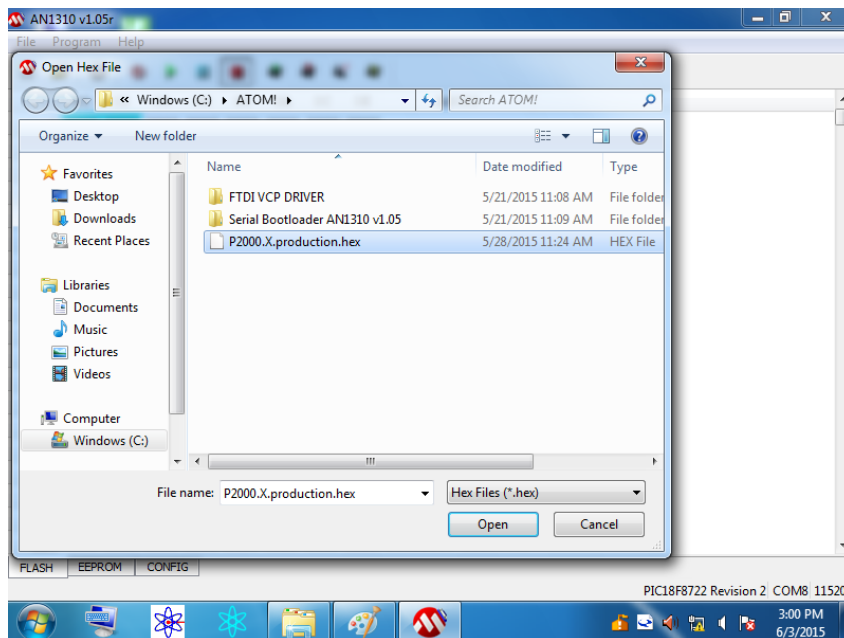

Figure 3.18
8. Select the **P2000.SGA.X.production.hex** file located in **C:\ATOM!** and click **Open** (Figure 3.18). This new software file that was previously copied in folder (Refer to Step 3 of the Moving files section).